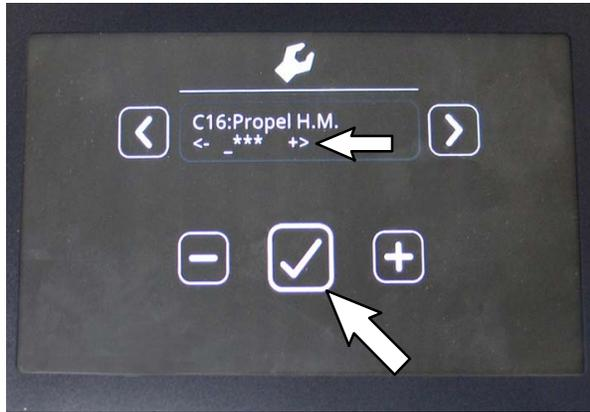

FIG. 31
- Log in to the C16: Propel H.M. Screen (hour meter reset password is 0000): Use the minus (-) button to enter 0 (zero) at first asterisk. Use right arrow button to move to next asterisk and again use the minus (-) button to enter 0 (zero). Repeat for the remaining asterisks. Press the Check Mark button when finished. (Fig. 31)
- Press the Check Mark button when finished entering 0 (zero) at the last asterisk. (Fig. 31)